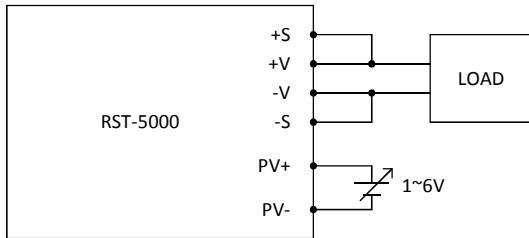

Fig 3.1
- (c) +S and +V, as well as -S and -V, need to be connected as shown in Fig 3.1.